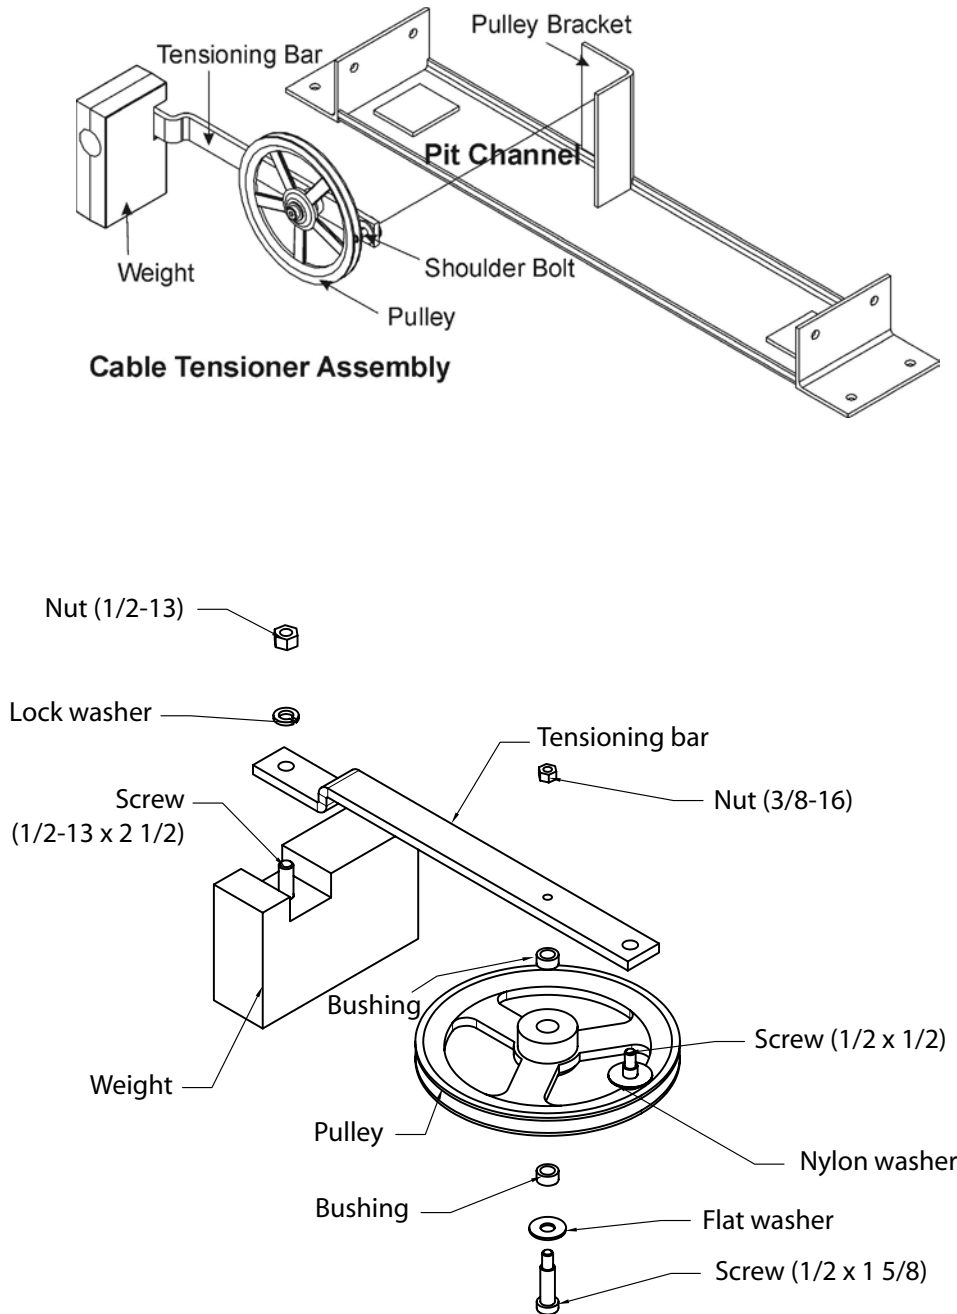

**Figure 62** Overspeed Governor Assembly
- 1) Attach the auxiliary governor bracket to the governor mounting bracket using nuts, bolts and lock washers supplied. See Figure 62 and 63.
- 16) Wire the overspeed governor switch (refer to Figure 62) in series with the pit switch through conduit to the controller, refer to the Electrical Schematics in Appendix A.